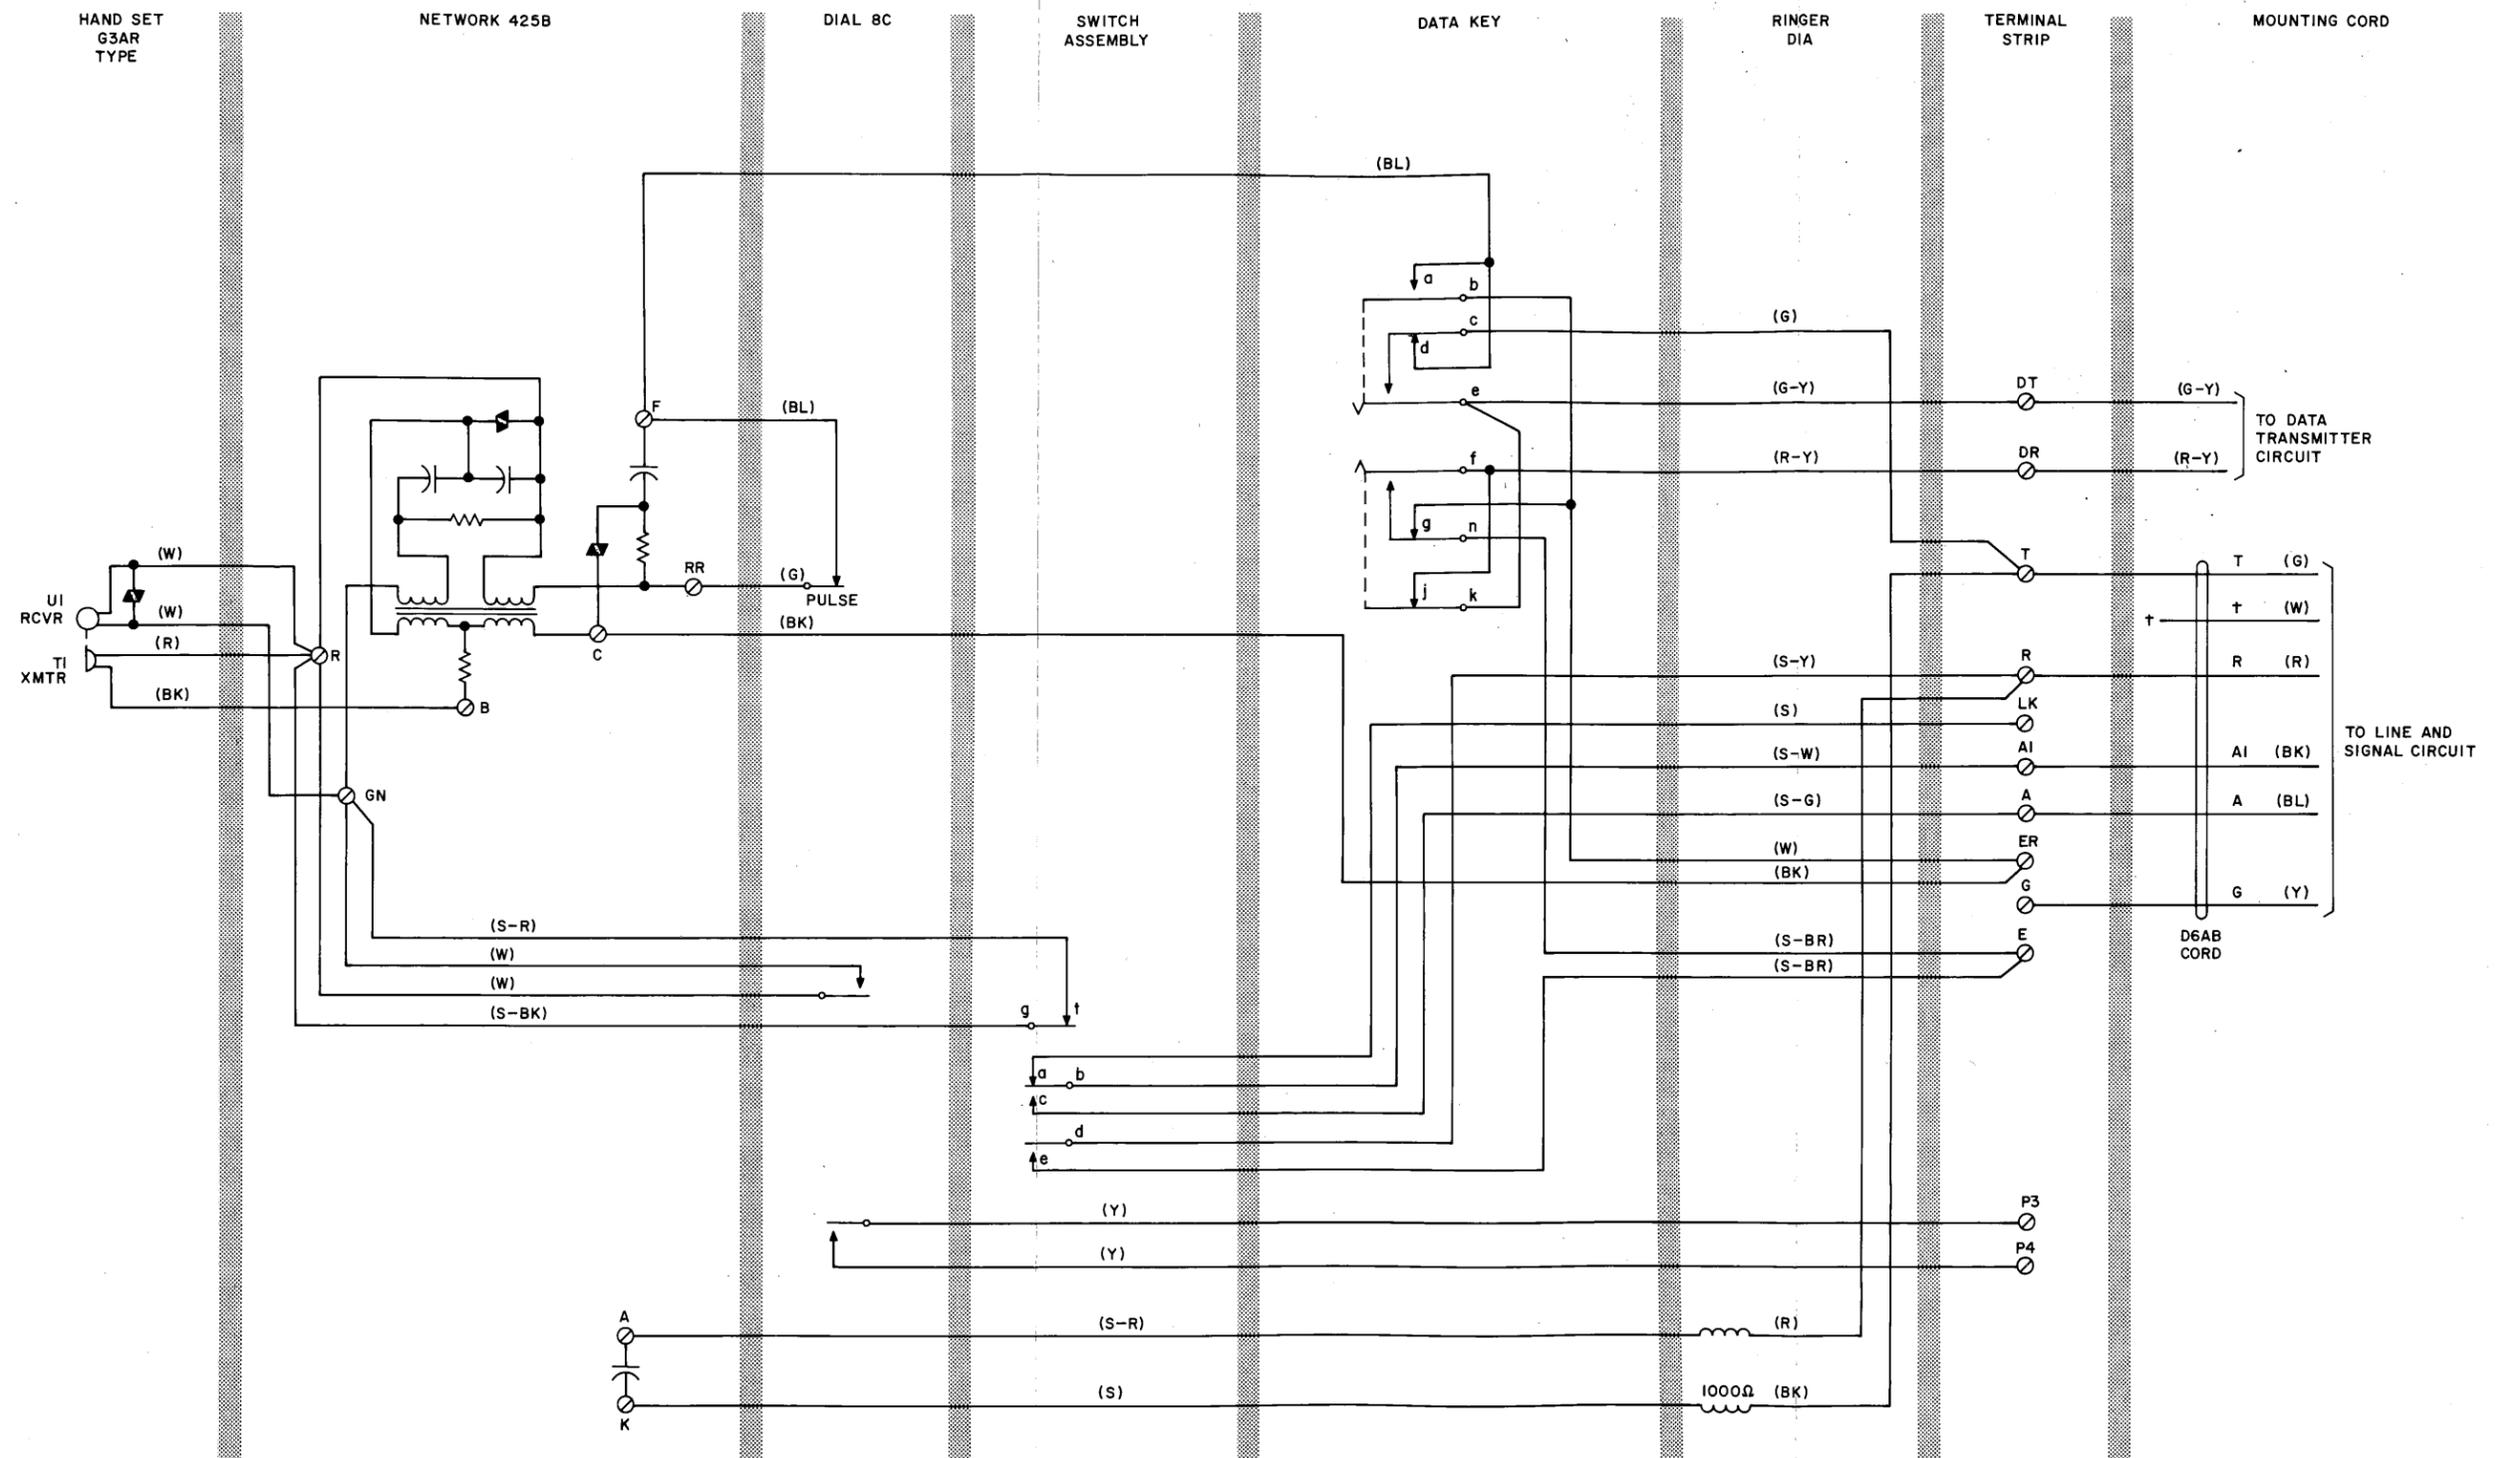

Fig. 1—Data Set J1D401A List 1 Telephone Circuit
- 1.04** For information concerning maintenance of the telephone circuit, refer to practices covering maintenance of the 500-type telephone sets for Data Set J1D401A L1, and the 700-type telephone sets for Data Set J1D401A L2 and Data Set 401A1 Series 2 and 3. Figures 1, 2, and 3 show all of these telephone circuits.